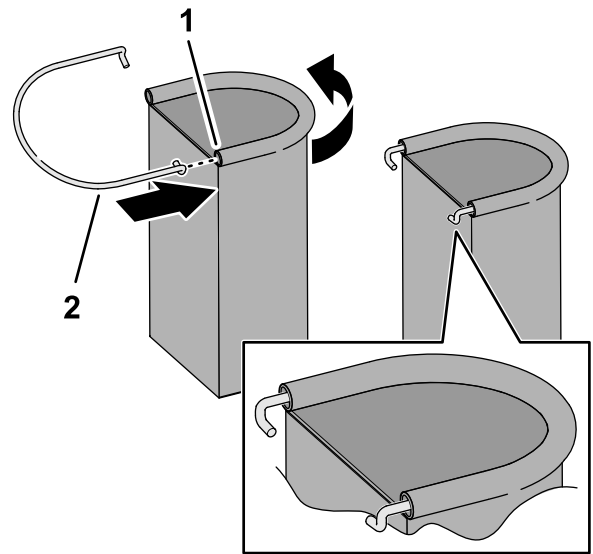

Figure 22
1. Insert a hoop rod into the sleeve of the PPE storage bag as shown in Figure 22.